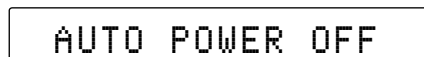

Figure 3
2. The Front Panel Display will momentarily indicate “Auto Power Off”. Refer to figure 3.